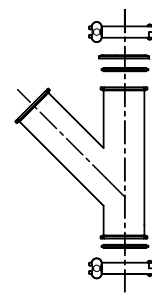

Figure 5
- Lateral Y - used in installations (see Figure 5)